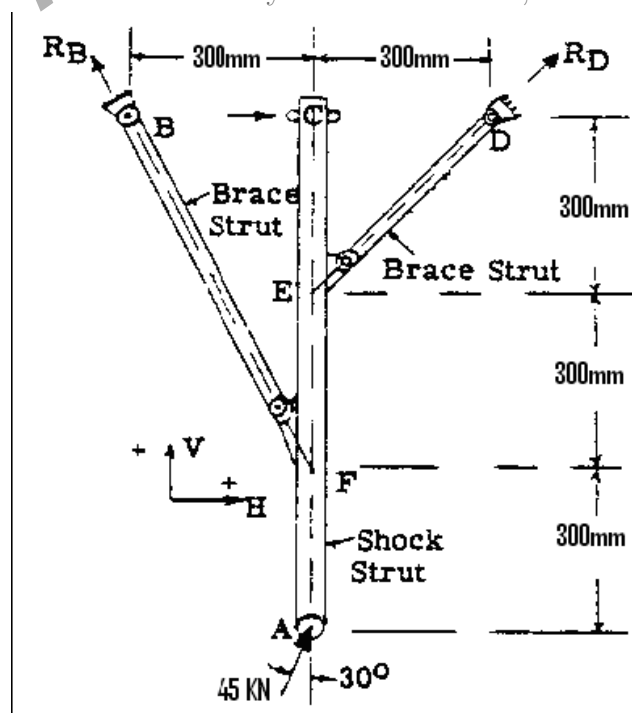

Figure 5:
5. The landing gear brace struts (circular in cross section) are as shown in figure 5. The member ED is subjected to an axial Force of 10 kN and transverse shear force of 5 kN. The yields strength of the struts material is 300 MPa. Determine the diameter of brace struts by using